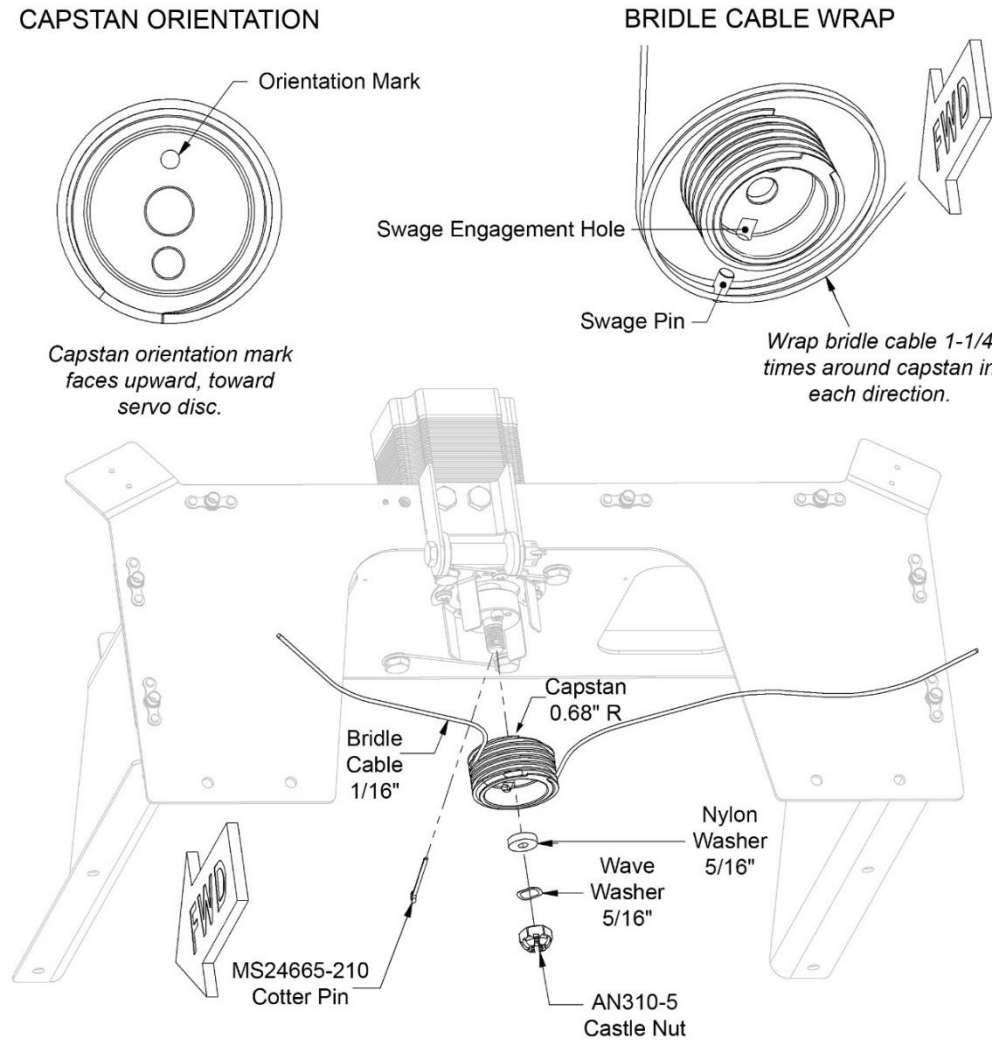

Figure 10: Attaching Capstan with Bridle Cable to Yaw Servo
16. Insert swage pin on new bridle cable into new capstan's engagement hole (see Figure 10).
17. Starting from engagement hole, wrap one end of bridle cable clockwise 1-1/4 times around capstan, and then wrap other end of bridle cable counterclockwise 1-1/4 times around capstan (see Figure 10).
19. Temporarily attach capstan to the yaw servo (see Figure 10). *Do not fully tighten castle nut or insert cotter pin yet.*
- e) Re-attach capstan to servo (see Figure 10). *Do not fully tighten castle nut or insert cotter pin yet.*